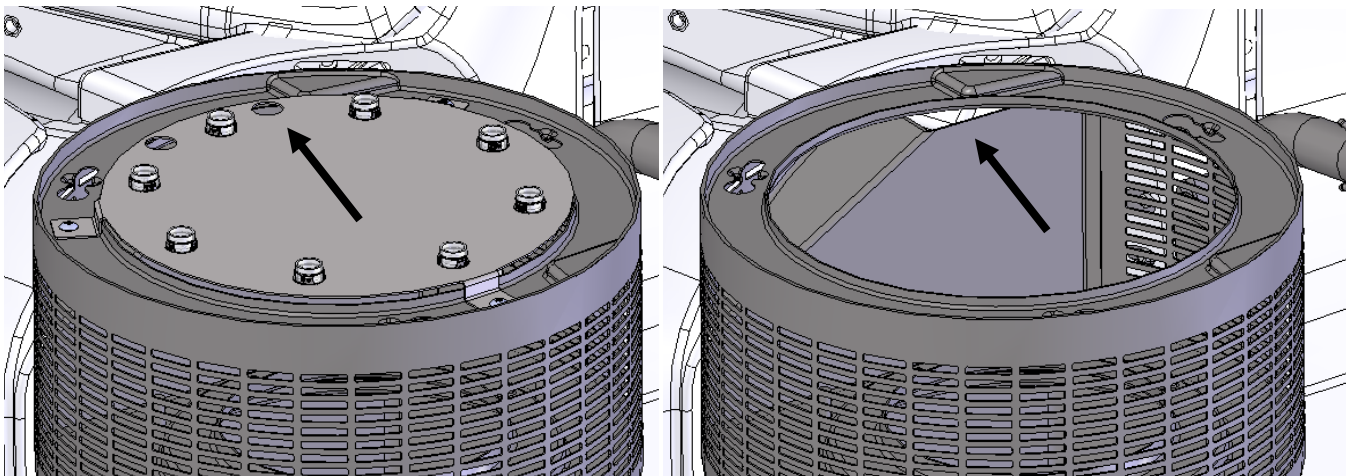

Figure 2: Grommet Hole (left) to be Aligned with Intake Screen Opening (right) for $\frac{3}{4}$ " Rd Light Disc
- Re-install the intake screen, bringing the female bullet plugs through the opening in the intake screen referenced in Figure 2.